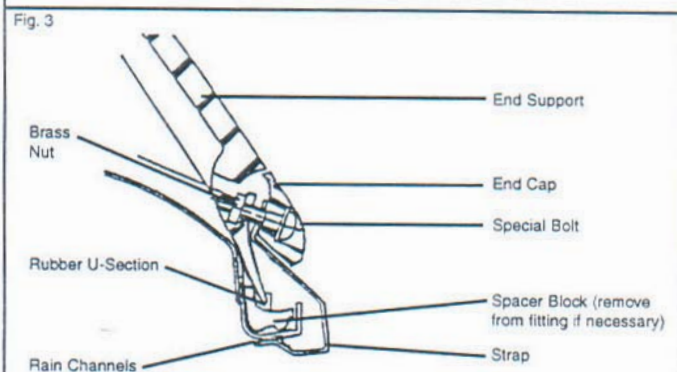

Fig. 3
- 4 Fit rubber U-section pieces to End Support (Fig. 3).